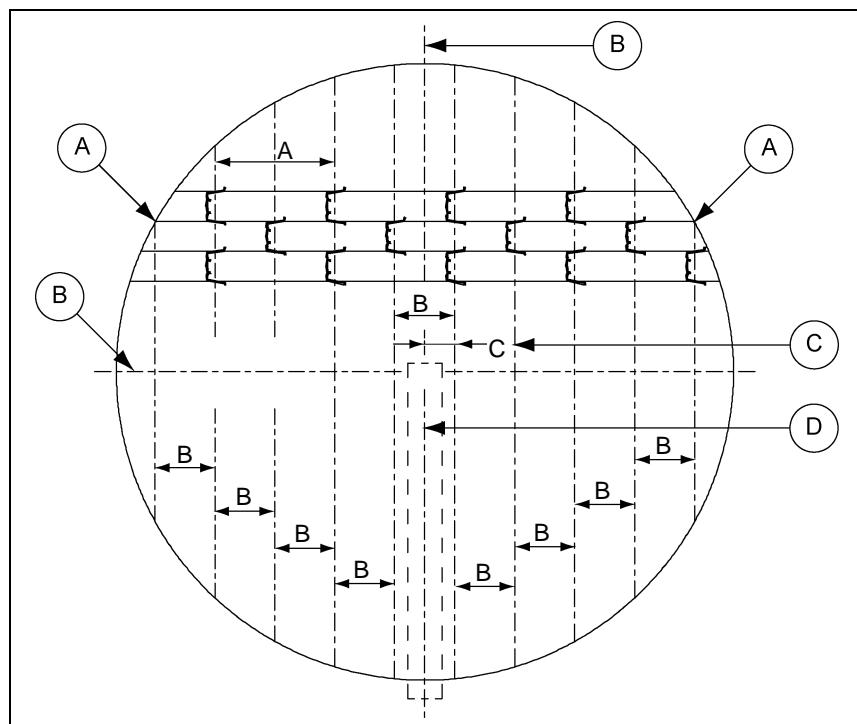

Figure 5B
Using the GSI recommended method for full floor installation should save construction time and eliminate the problem of improper installation which could invalidate your warranty. Note the following dimensions as shown in Figure 5B.
1. Layout centerlines of tank. Make sure one centerline is in line with the direction of the flooring planks while the other centerline is perpendicular with the flooring planks. (See Figure 5B.)
2. From the centerline that is perpendicular to the flooring planks, measure the distance of "C" Dimension and mark a chalk line. (See Figure 5B.)
3. From the line chalked in the previous step, measure over the distance of "B" Dimension and chalk another line. Repeat this procedure across the bin until reaching the wall in both directions. When completed, there should be a set of parallel lines (perpendicular to the floor planks) with "B" Dimension distance between each line. (See Figure 5B.)